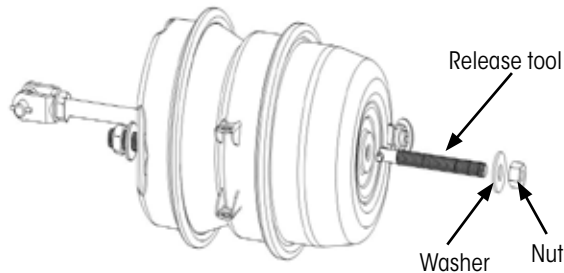

Figure 33: Caging brake chamber
3. Insert release tool through key hole in chamber into the spring piston Figure 33.
6. Assemble release tool washer and nut on release stud, **finger tighten** only Figure 33.